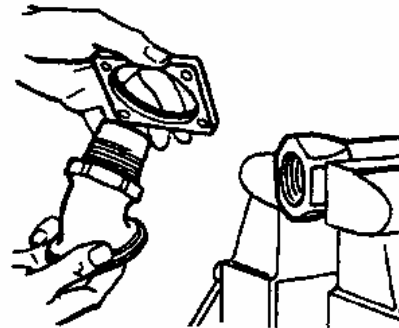

Figure 10. Flange Assembly
i. For a flanged elbow, place flange over threaded end of elbow. Nipple shoulder must fit into counterbore of flange (Figure 10).
e. For a flanged elbow, place flange over threaded end of elbow. Nipple shoulder must fit into counterbore of flange (Figure 10).